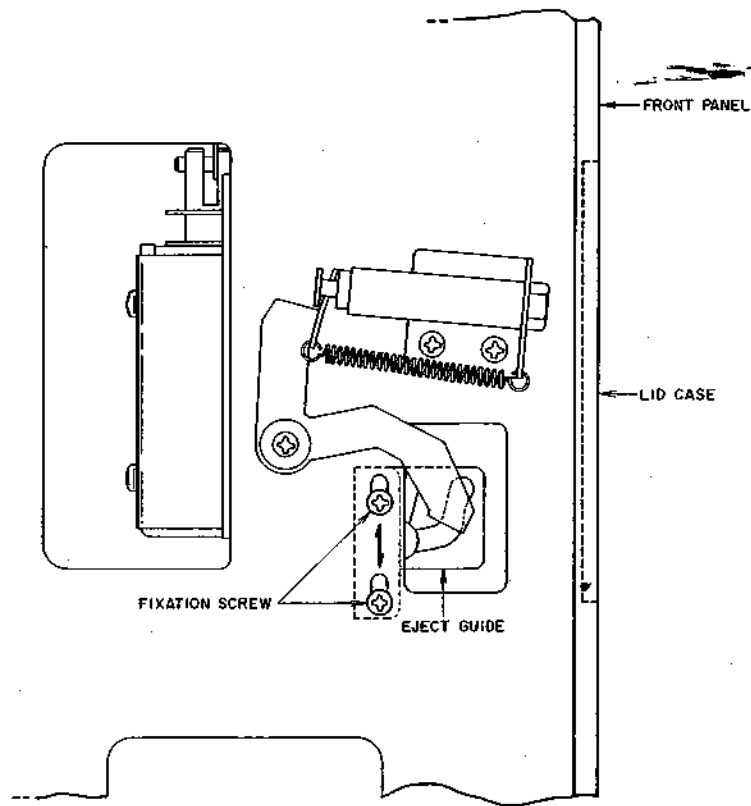

Fig. 18 Left Side of the Deck
(Refer to Fig. 18)
Move the Eject Guide shown in Fig. 18 (direction indicated by arrow mark) up and down and adjust Lid Case so that it is even with the front panel. If the upper part of Lid Case comes too far inward, raise the eject guide, and if too far outward, lower eject guide.
- 5) With the Dolby Noise Reduction Switch at ON, adjust semi-fixed resistor VR4 (50 k Ω) shown in Fig. 18 to obtain a -20 dBm level at center terminal of Rec Level Volume.
- 4) Supply a 5 kHz signal to terminal (13) shown in Fig. 18 and obtain a -20 dBm line output level.